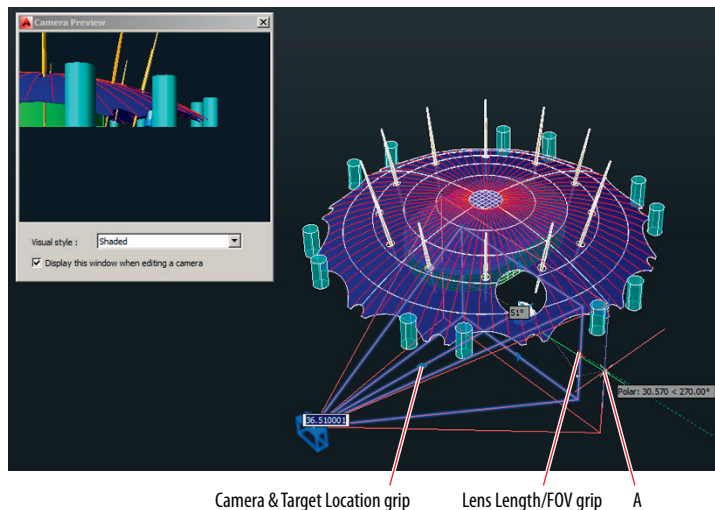

FIGURE 16.16 Adjusting a camera in an isometric view
5. Select the camera object. Select the Shaded visual style in the Camera Preview window that appears. Drag the Lens Length/FOV grip to the right, and click approximately at point A to expand the field of view (see Figure 16.16).